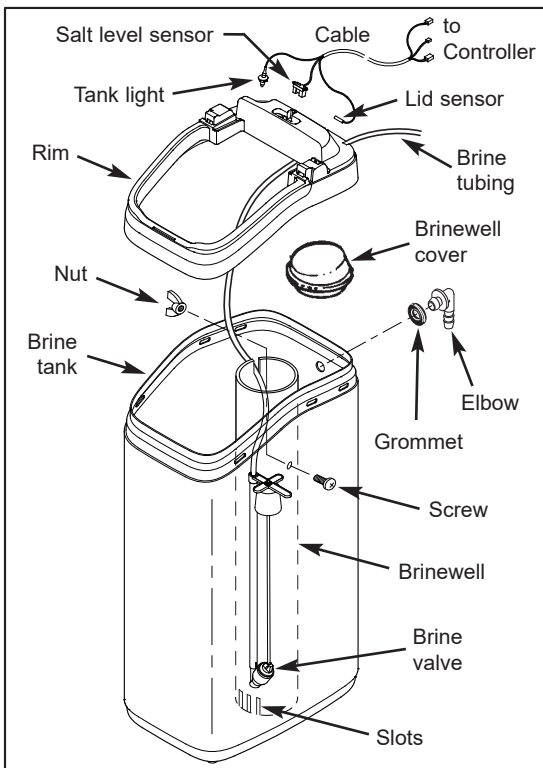

FIG. 4
- a. Snap the rim into place on the brine tank (See Fig. 4).
c. Lower the brine valve into the brinewell. Push the tubing into the brinewell top slot (Fig. 4) and route it out through the hole in the back of the rim.
f. Locate the brine tank cable, one end of which is shipped plugged into the back of the electronic controller (PWA). At the loose end of this cable, identify the tank light, salt level sensor and cover sensor. Insert each of these three items into their corresponding slots in the rim, as shown in Figure 4.
- Route the tubing attached to the brine valve assembly out through the hole in the back of the rim (See Fig. 4).